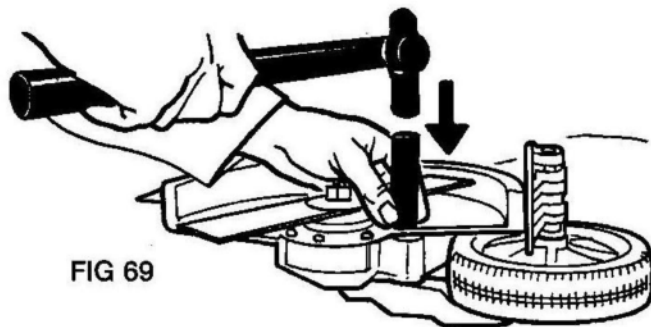

FIG 69
8. Check and renew O' ring #40906 if necessary. Fit assembly into housing. If bearing is loose in housing, smear loctite around bearing before assembling. Carefully drive down (making sure gears are meshing) by gently tapping around bearing area (Fig. 69) and turning clutch drum. Refit 6 screws around shaft.